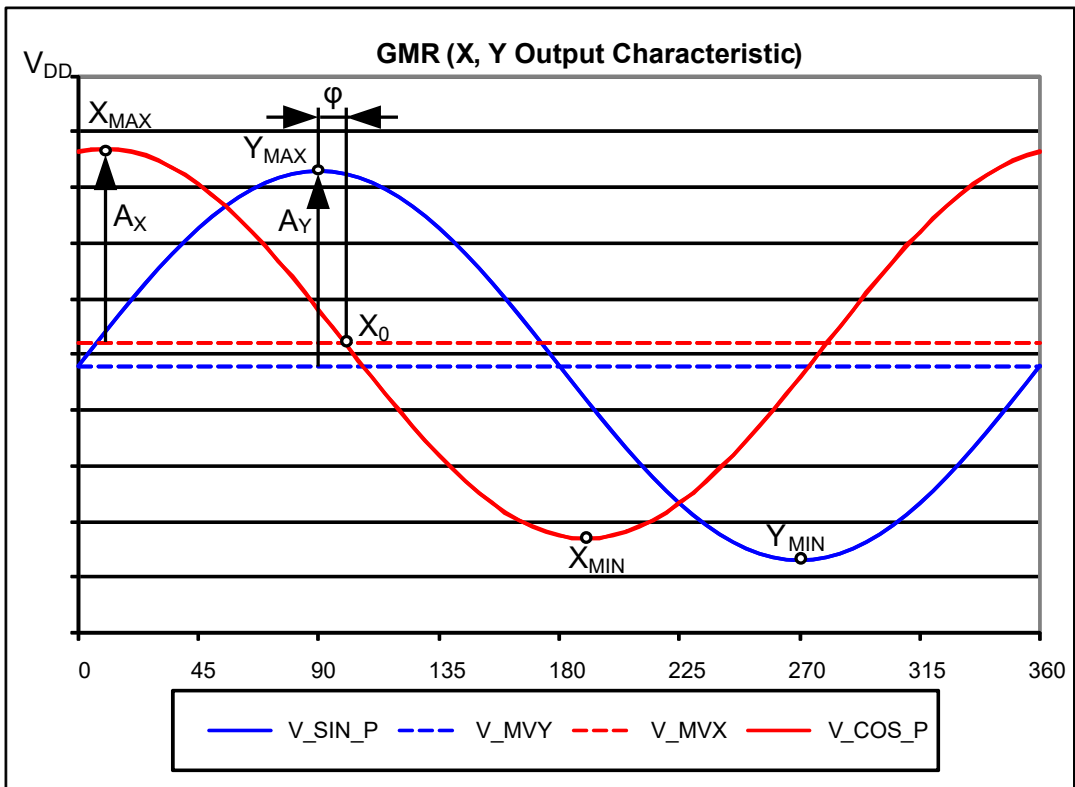
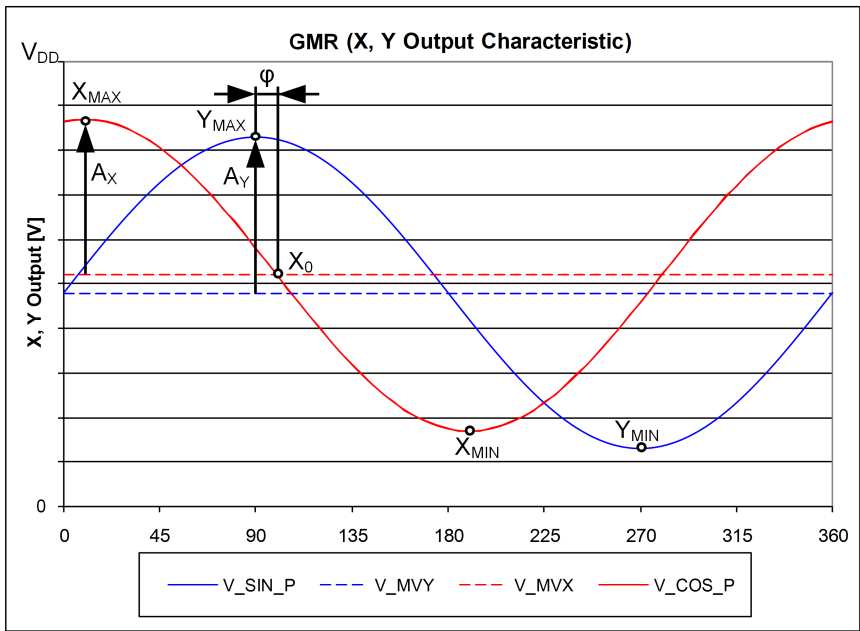

Figure 16 GMR sensor single-ended output signals
Figure 17 AMR sensor single-ended output signals
All parameters apply over the full operating range, unless otherwise specified. The parameters in Table 9 refer to single pin output and Table 10 to differential output. For variable names please refer to Figure 16 on page 21 and Figure 18 on page 22.
- 1) V_{max} and V_{min} correspond to the voltage levels at X_{max} or Y_{max} and X_{min} or Y_{min} respectively as shown in Figure 16, Figure 17.